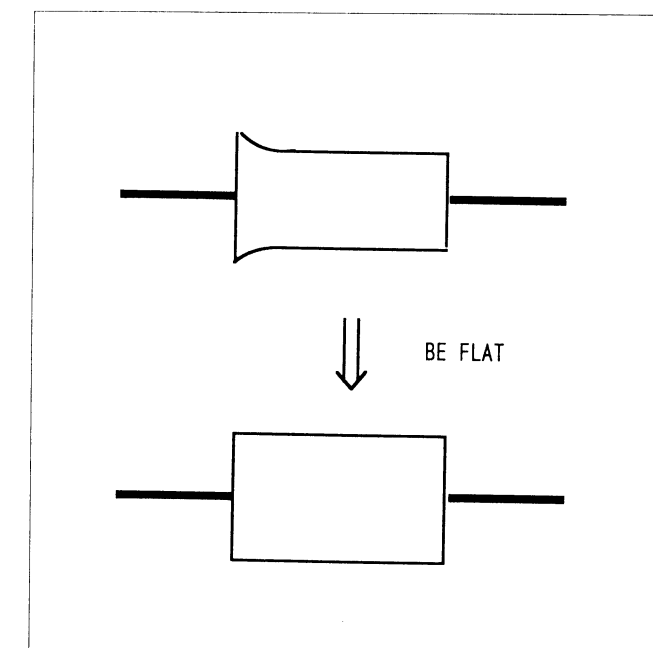

Fig. 1-6
- 5) Make the waveform flat by turning No 5 Guide. (Fig. 1-6)